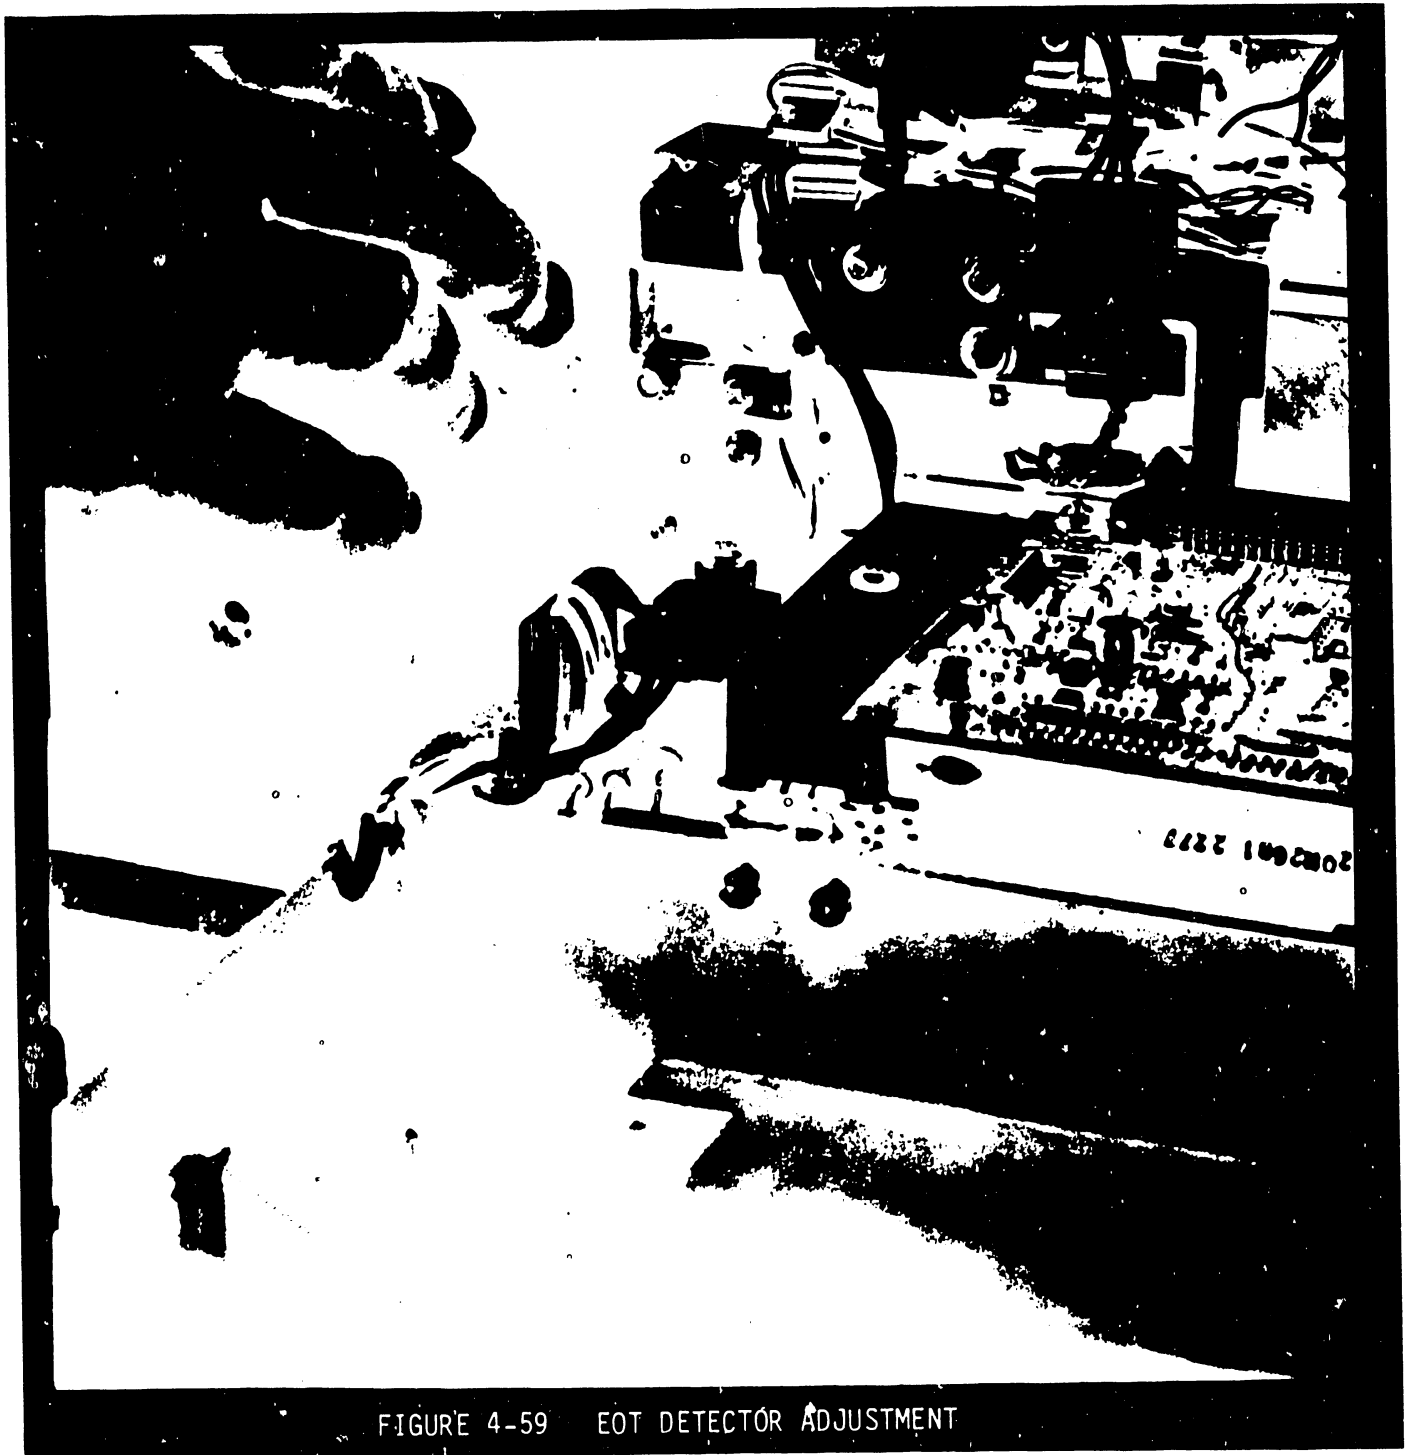

FIGURE 4-59 EOT DETECTOR ADJUSTMENT
12. If waveform is not within the limits shown in Figure 4-58, slightly loosen the two socket head screws (Phillips on early units) on the E.O.T. detector (see Figure 4-59). Place a screwdriver in the slot and adjust the detector horizontally to the limits shown in Figure 4-58.